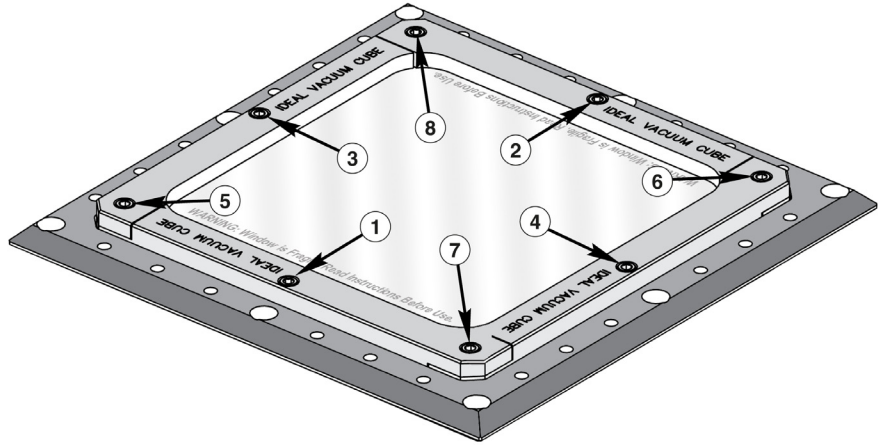

Figure 13 - 9x9 and 12x12 bolt tightening pattern
3. Use the tightening pattern shown in Figure 13, 14 or 15, corresponding to your viewing window assembly size.